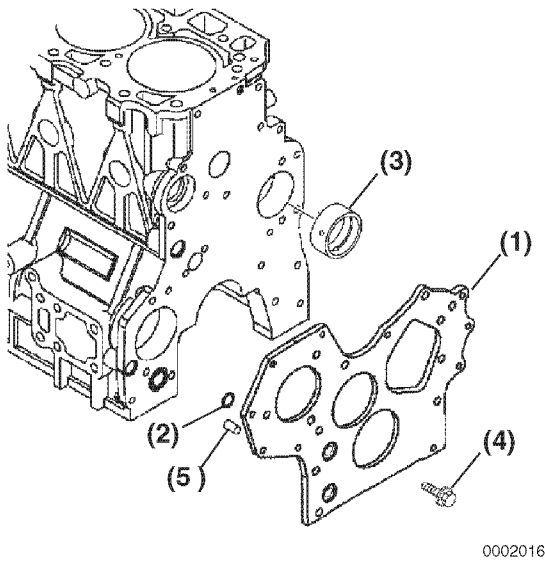

Figure 6-96
6. **TNV84 - TNV88:** Remove the O-ring (Figure 6-96, (2)) and dowels (Figure 6-96, (5)).